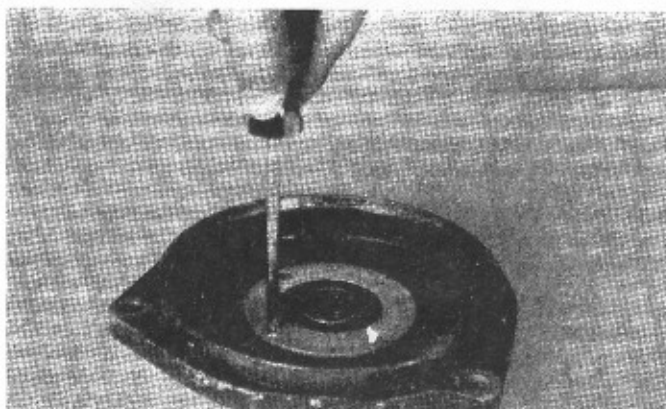

Figure 23
- 6.1 Remove four 10-32 flat head screws and remove bearing retainer. Inspect seal and replace if necessary. Fig. 23.